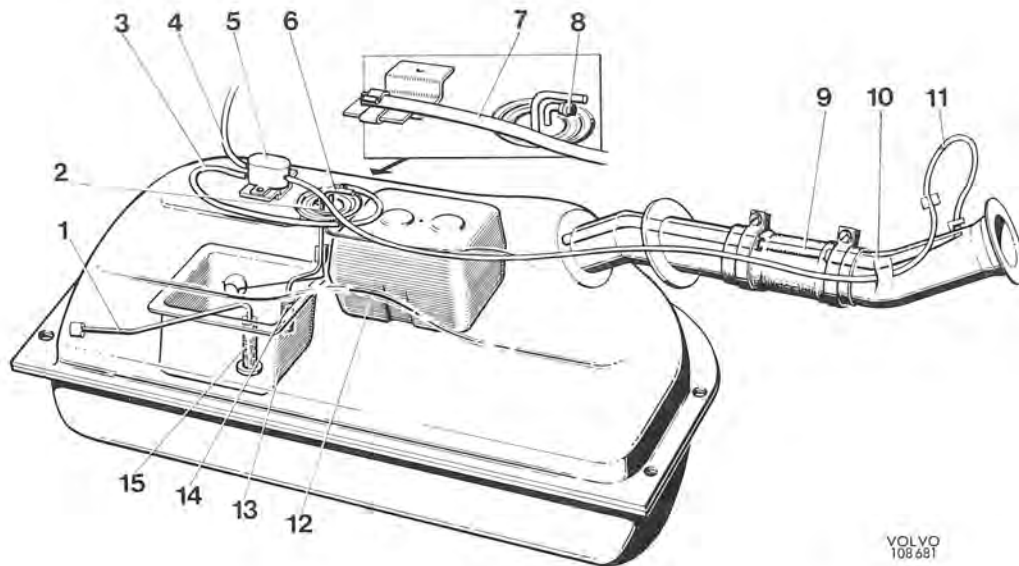

Fig. 2-72. Fuel tank
Fig. 2-72 shows the layout of the tank which holds 60 litres (13 Imp. galls.=16 US galls.) and is fitted with a built-in plastic expansion tank (12) for 5 litres (5 qts.). The expansion tank has an equalizing hole on top and an inlet hole underneath, dimensioned for slow filling.
The equalizing hose end opening out into the atmosphere is clamped to a bracket on the tank (see 7, Fig. 2-72).